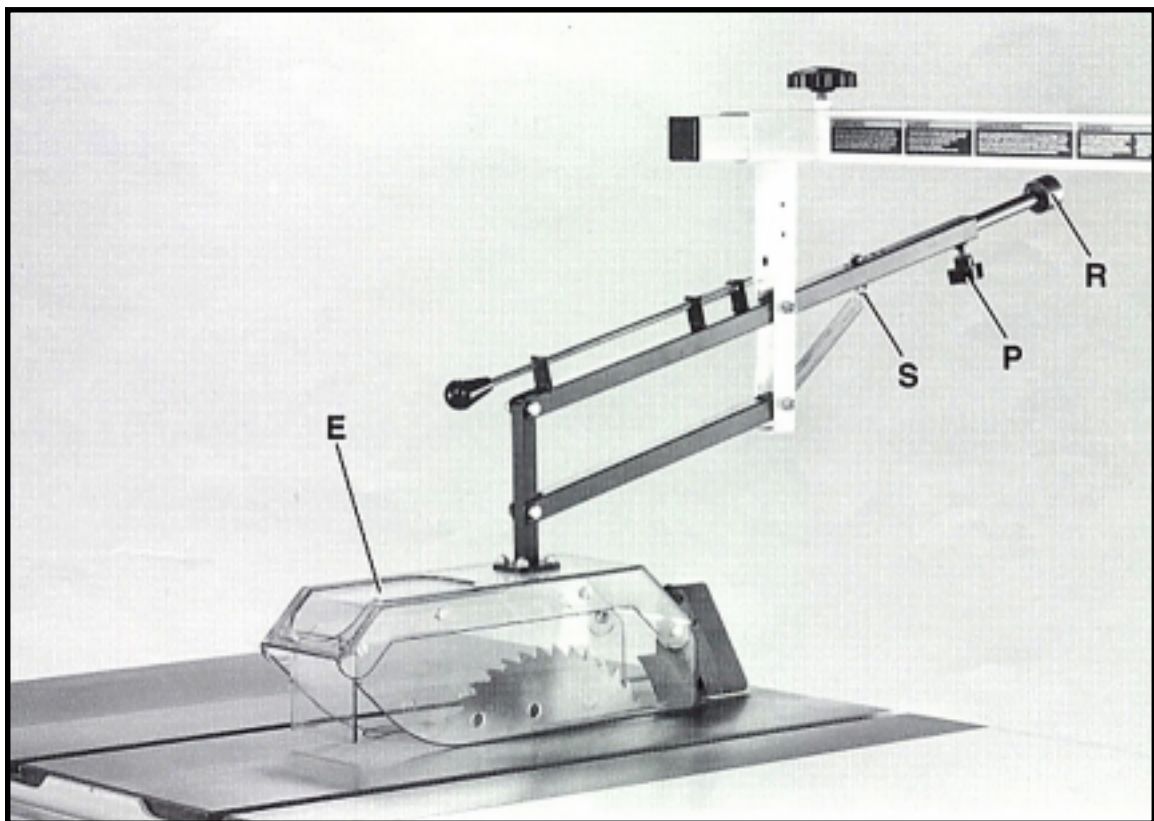

Fig. 31
26. A counter balancing weight is provided to achieve the desired weight of the guard basket (E) Fig. 31, on the workpiece. To adjust the counter balance weight, loosen knob (P) and pull weight extension (R) out a desired distance as shown. Then tighten knob (P). If additional adjustment is required, spring position may be changed by moving I-bolt (S).